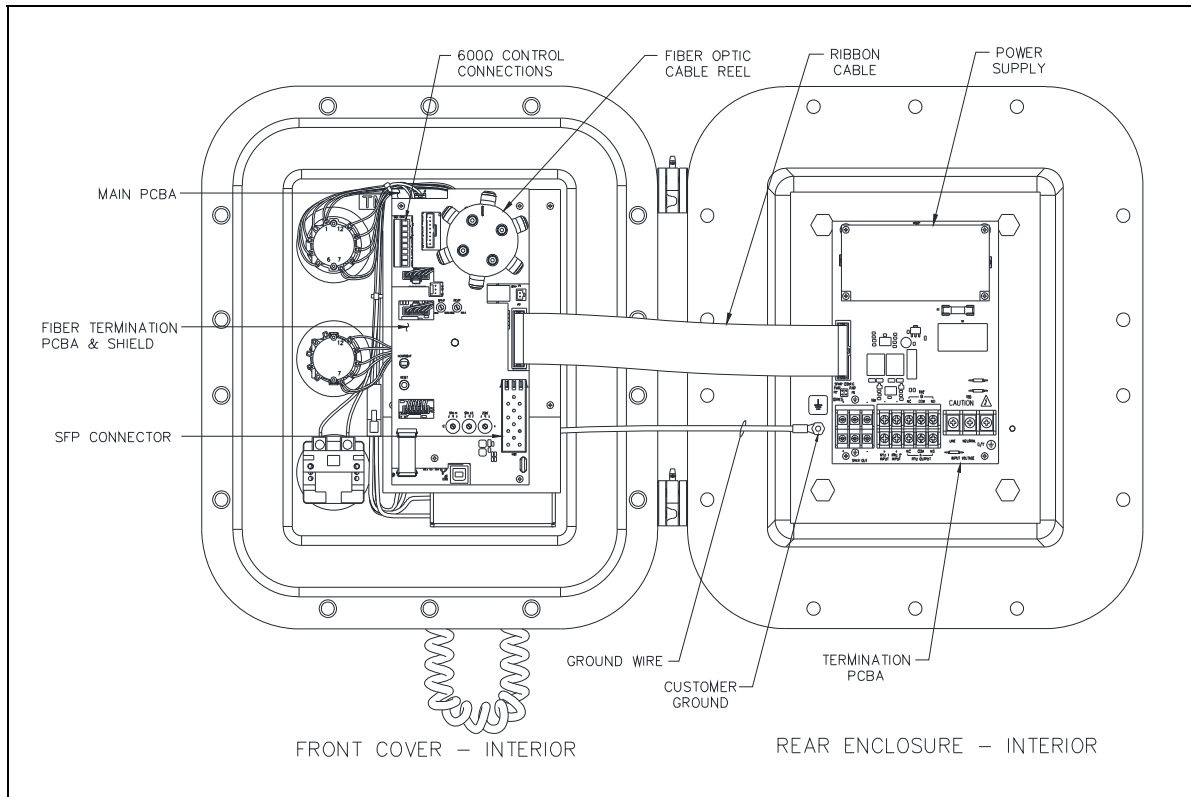

Figure 5. Fiber Hazardous Area SP2 Station—Interior View
2. Secure it to the ground terminal, located at the back of the rear enclosure on the left side (see Figure 5).